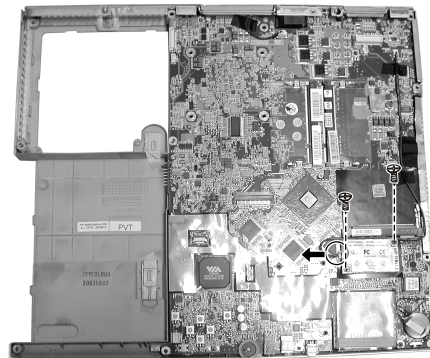

Figure 2-32 Remove the modem card
5. Remove two screws fastening the modem card. disconnect cord from system board. (Figure 2-32)